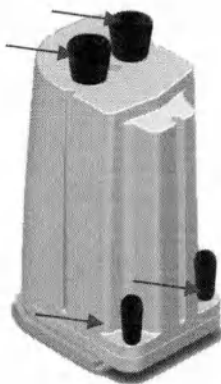

Figure 9: Remove Top Caps and Bottom Plugs from the new Zeolite column
1. Remove the Top Caps and the bottom plugs from the new P5 column as shown in Figure 9.